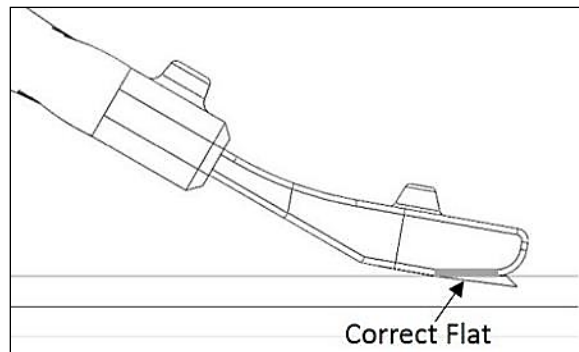

Figure 9. Correct Tool Alignment
- 3.2.3. With the forward cutting edge of the TGB engaged in the gap filler, pivot the handle so the flat on the gap blade adapter (closest to the nose) is parallel and in contact with the structure on both sides of the gap. See **Figure 9**.